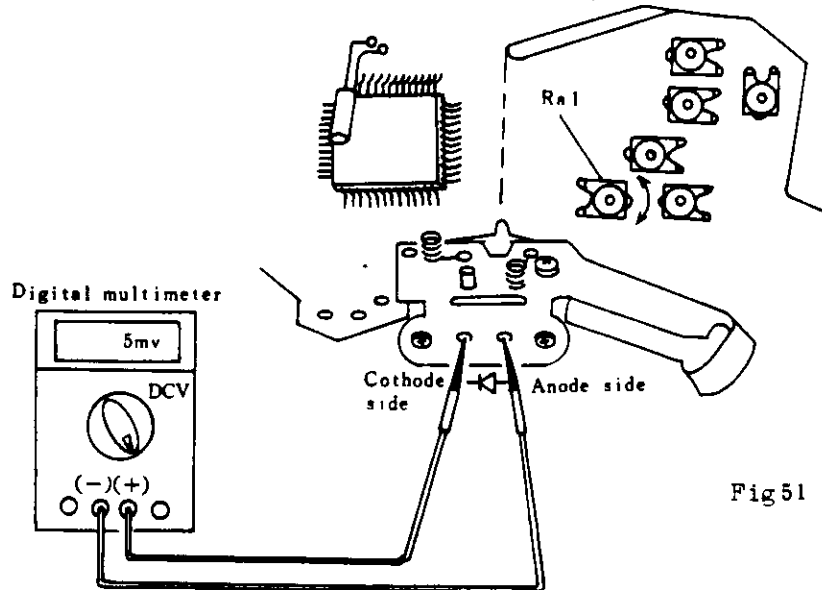

Fig 51
- 2 Connect (-) of digital multimeter to Cathode side of SPD-1, (-) of digital multimeter to Anode side of SPD-1 and then read the voltage. See (Fig 51).